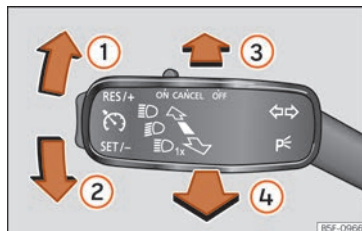

Fig. 84 Turn signal and main beam lever.
- From the base position, press the turn signal and main beam headlights lever forwards  **Fig. 84 ③**.
- **EITHER:** if main beam assist is on, pull the turn signal light and main beam headlights lever back  **Fig. 84 ④**.